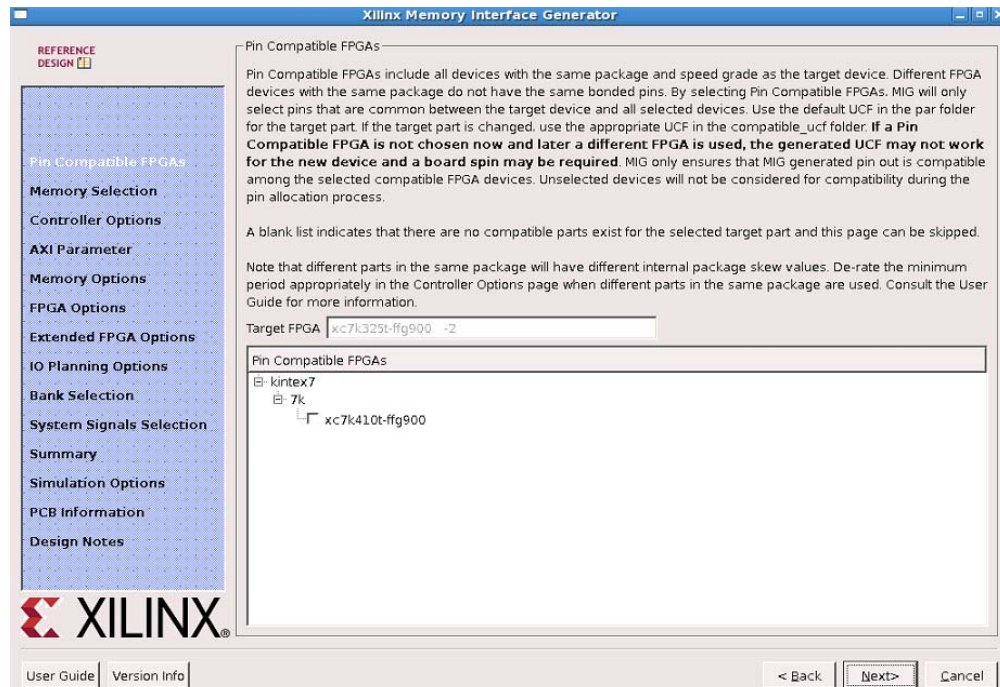

Figure 27: MIG Pin-Compatible Virtex-7 FPGAs
6. For **Pin Compatible FPGAs** settings, (Figure 27), click **Next**.